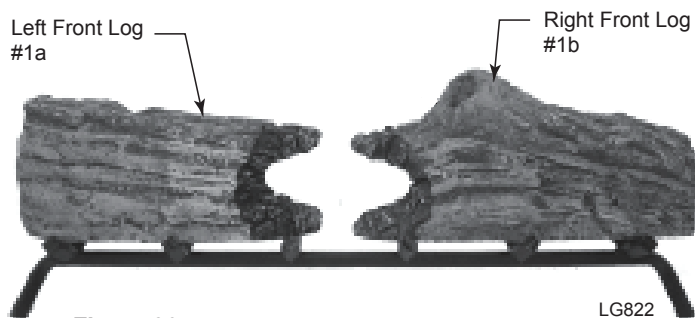

**Figure 90 -
2. Place left front log #1a on front left of grate. *Figure 90*
3. Place right front log #1b on front right of the grate. *Figure 90*